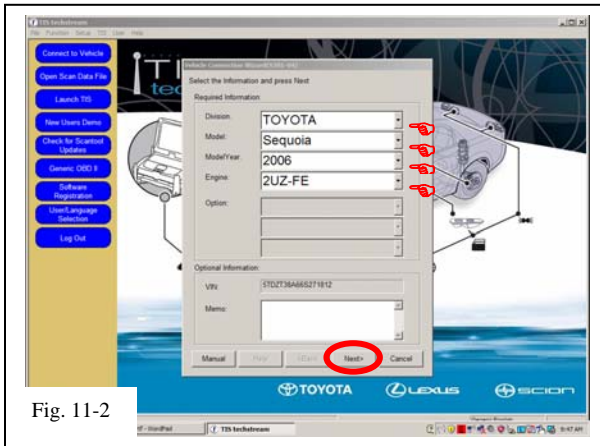

Fig. 11-2
- (e) Confirm that the information displayed on the Vehicle Connection Wizard is correct. If not, make the appropriate selections from the Drop Down Menus then click “**Next**”. (Fig. 11-2)